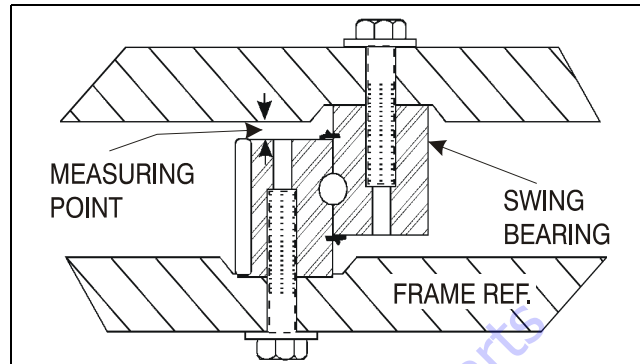

Figure 3-44. Swing Bearing Tolerance Measuring Point
1. From the underside of the machine, at rear center, with the main boom fully elevated and fully retracted, and tower boom stowed, as shown in Figure 3-41., Swing Bearing Tolerance Boom Placement (Sheet 1 of 2), using a magnetic base dial indicator, measure and record the distance between the swing bearing and turntable. See Figure 3-44., Swing Bearing Tolerance Measuring Point
2. At the same point, with the main boom at horizontal and fully extended, and the tower boom fully elevated and fully retracted as shown in Figure 3-42., Swing Bearing Tolerance Boom Placement (Sheet 2 of 2). Using a magnetic base dial indicator, measure and record the distance between the swing bearing and turntable. See Figure 3-44., Swing Bearing Tolerance Measuring Point